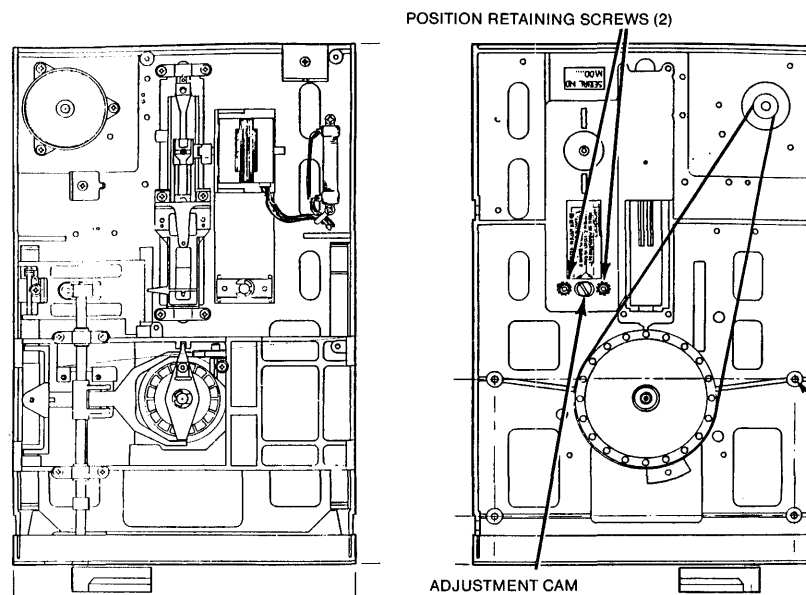

Figure 2-4
- A. Turn the two position retaining screws that straddle the nylon adjustment cam located beneath the drive until the cam can be moved (see Figure 2-4).
- D. Tighten the two positioner retaining screws (see Figure 2-4).